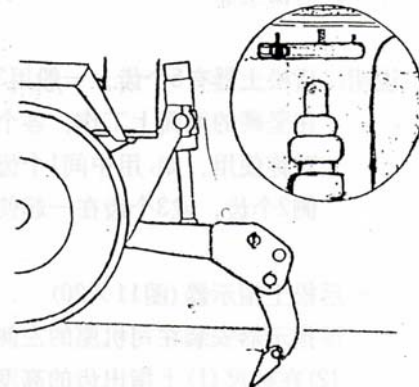

Fig. 26
3. Deep ripper (Fig.26), press the ripper completely by use of oil cylinder.